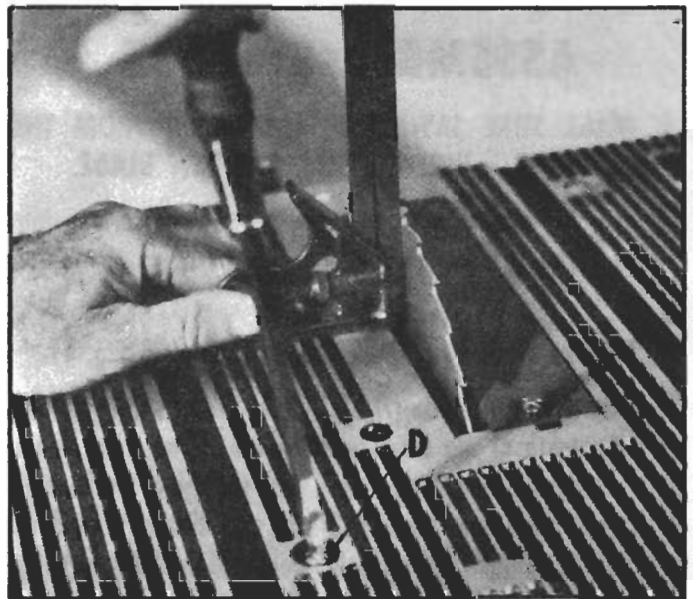

Fig. 15
3. Place a square on the table as shown in Fig. 15 and check to see that the blade is at a 90 degree angle to the table. And Pointer (E) reads 0 degrees
4. If the blade is not at 90 degrees to the table, back off screw (D) Fig. 15. Loosen red lock knob (F) and move tilting handwheel until blade is at 90 degrees to the table surface and then re-tighten lock knob (F) to hold the position. Now tighten screw (D) Fig. 15 until it contacts the stop.